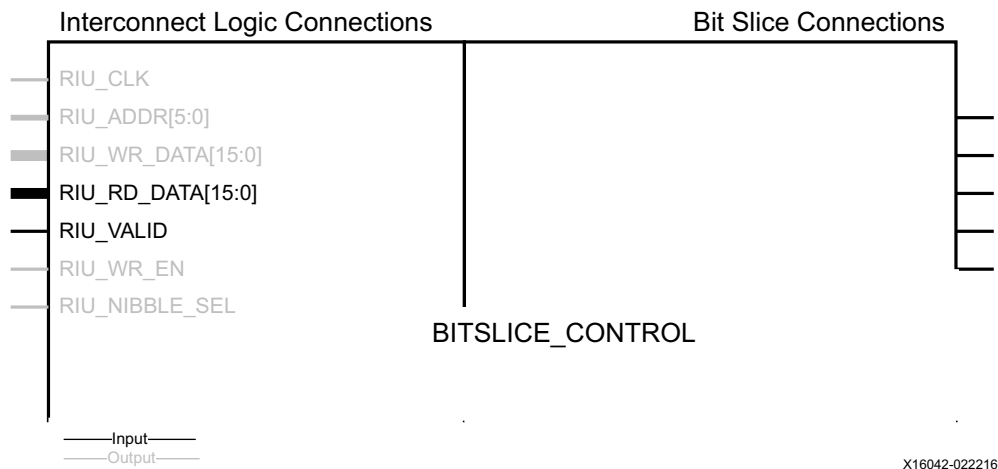

Figure 2-74: RIU in the BITSlice_CONTROL
Using the register interface unit (RIU), the BITSlice_CONTROL primitive can be turned into a processor peripheral block. The RIU interface is a set of 64 read/write, 16-bit registers, acting as a dynamically accessible processor peripheral interface providing full control over every function and feature of a nibble: control of all input, output, 3-state, and all delay lines (input, output and quarter), voltage and temperature (VT) tracking, clocking options, and built-in self-calibration (BISC). The RIU interface is represented in the BITSlice_CONTROL component as shown in Figure 2-74.